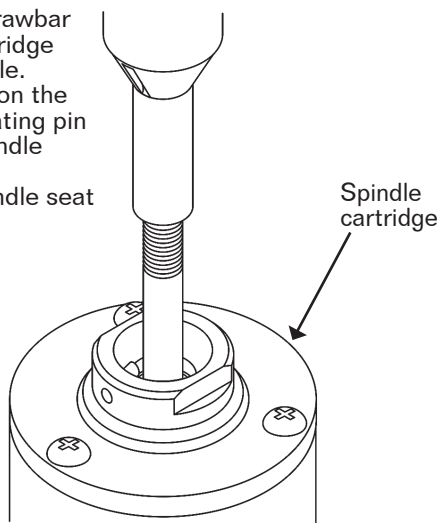

Fig. 6 Inserting the spindle into place.
4. Place the spindle/drawbar into the spindle cartridge at the top of the table. Line up the keyway on the spindle with the locating pin at the top of the spindle cartridge. You will feel the spindle seat itself. See Figure 6.